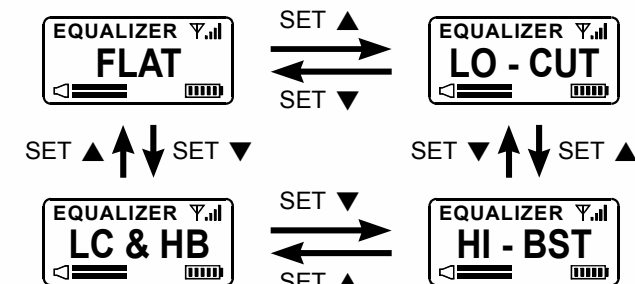

Fig. 14
8. EQUALIZER Mode, Fig. 14:
- (A) When SET ▲ or SET ▼ button is pressed, the current parameter blinks to denote it is ready to accept change.
- (B) Press and release SET ▲ or SET ▼ button to change setting of EQUALIZER .5 seconds later or MODE button is pressed, blinking stops and the setting is automatically saved.
- (C) EQUALIZER Settings: